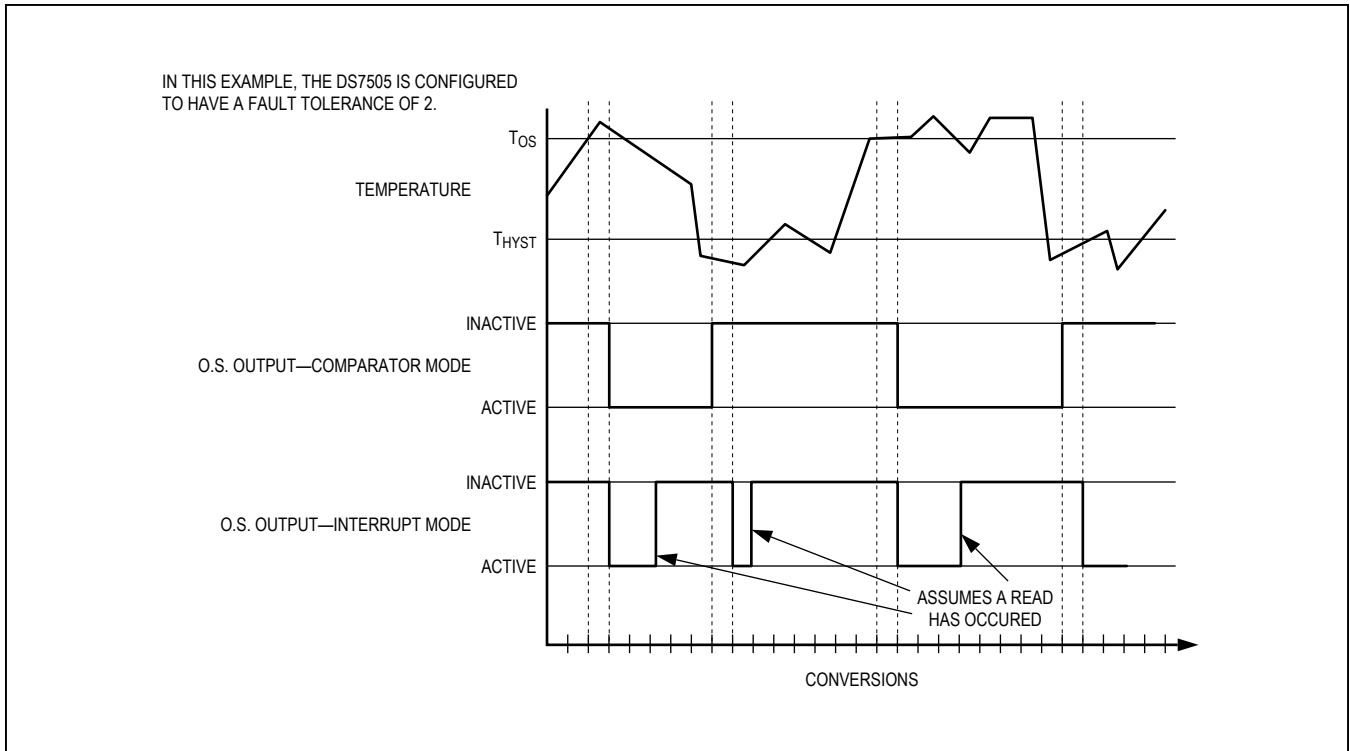

Figure 4. O.S. Output Operation Example
When the thermostat is in comparator mode, O.S. can be programmed to operate with any amount of hysteresis. The O.S. output becomes active when the measured temperature exceeds the  $T_{OS}$  value a consecutive number of times as defined by the F1 and F0 fault tolerance (FT) bits in the configuration register. O.S. then stays active until the first time the temperature falls below the value stored in  $T_{HYST}$ . Putting the device into shutdown mode does not clear O.S. in comparator mode. Thermostat comparator mode operation with FT = 2 is illustrated in Figure 4.
measured temperature falls below the  $T_{HYST}$  value a consecutive number of times equal to the FT value. Again, O.S. can only be cleared by putting the device into shutdown mode or reading any register. Thus, this interrupt/clear process is cyclical between  $T_{OS}$  and  $T_{HYST}$  events (i.e.,  $T_{OS}$ , clear,  $T_{HYST}$ , clear,  $T_{OS}$ , clear,  $T_{HYST}$ , clear, etc.). Thermostat interrupt mode operation with  $FT = 2$  is illustrated in Figure 4.